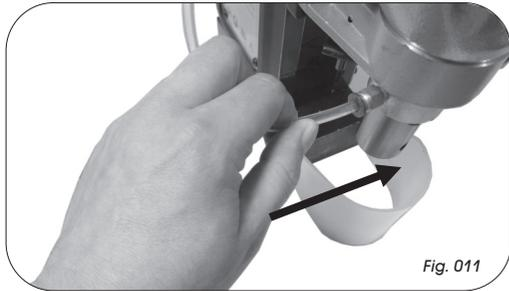

Fig. 011
- Push the end of the coolant pipe, not connected to the bottle outlet, to the coolant pipe fitting (Fig. 011).